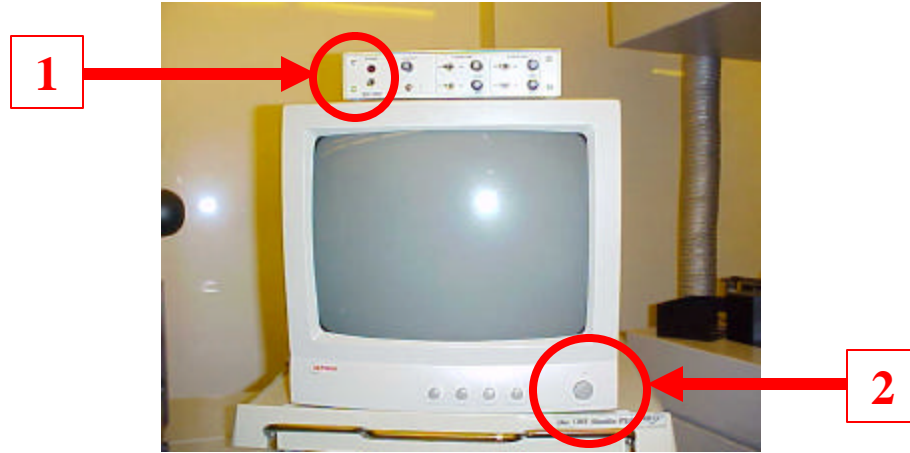
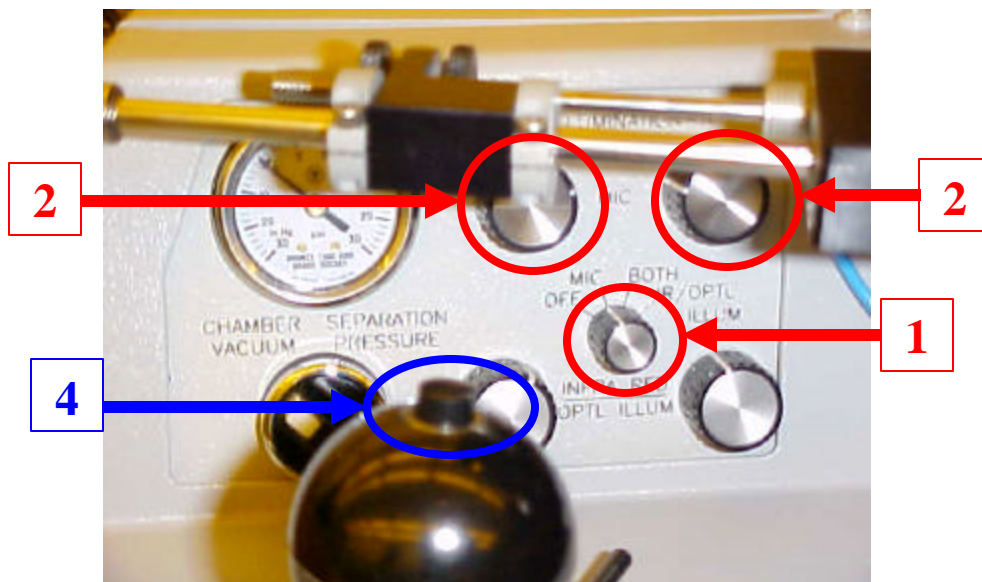
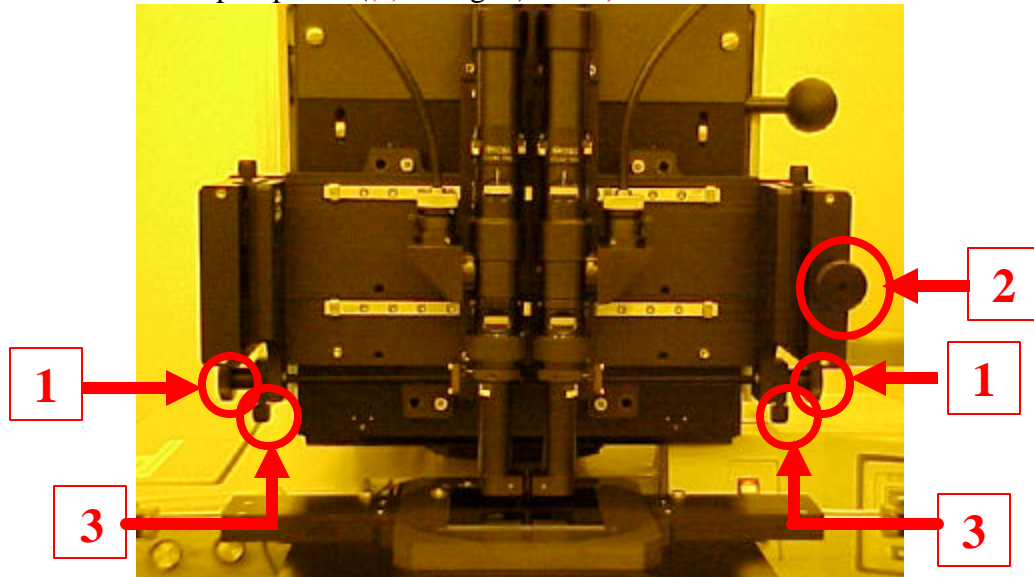
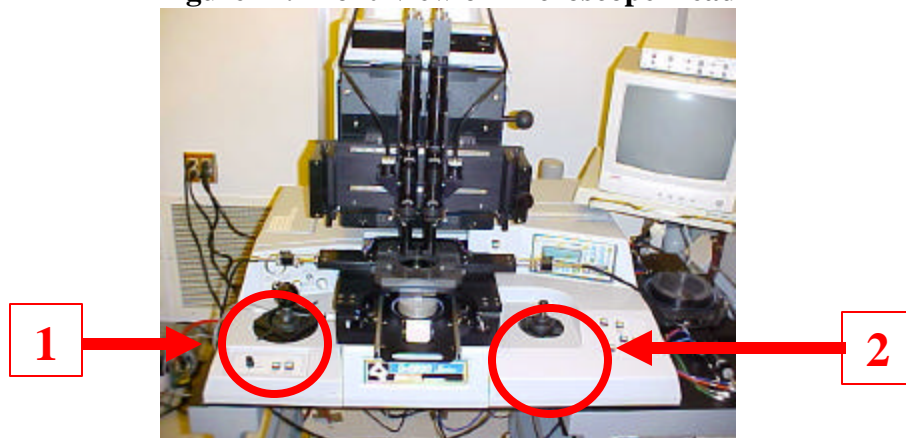

Figure 20. MV-200 & Monitor
Figure 21. Illuminator Adjustment
Figure 22. Front-view of Microscope Head
Figure 23. Joysticks
15. **If you don't need alignment (i.e., single layer exposure), you can skip steps 15-18. Go To the Step 19.** Turn the MV-200 power on ((1) in Fig. 20). Turn the monitor power on ((2) in Fig. 20). Turn the knob from "OFF" to "MIC (microscope)" ((1) in Fig. 21). Now, microscope light is illuminated and you can see the image of the mask and the wafer through the monitor. Adjust microscope illumination intensity ((2) in Fig. 21) as necessary. Move the microscope objective in x (each objective moves independently, (1) in Fig. 22) and y (both objectives will be moved, (2) in Fig. 22) direction as necessary. If the knobs ((3) in Fig. 22) are tightened, loose them slightly and move the microscope objectives as necessary. Once the alignment is done, make sure the knobs are tightened. If they are not tightened, what you see through the monitor and what you will get at the wafer may be different.
16. Move the mask/wafer stage together as necessary with "Scan Stage Joystick" ((1) in Fig. 23). **{CAUTION: YOU HAVE TO PRESS BUTTON ((4) in Fig. 21) ON TOP OF THE SCAN STAGE JOYSTICK WHEN YOU MOVE THE JOYSTICK. IF YOU DON'T PRESS THE BUTTON AND FORCE TO MOVE THE JOYSTICK, IT WILL BREAK.}**
18. Move the wafer chuck with “Align Stage Joy Stick” ((2) in Fig. 23) to align features on your mask and on the wafer. While you press “Coarse Align” button ((2) in Fig. 19) and move the “Align Stage Joystick”, it will give you a coarse alignment. While you don’t press the “Coarse Align” button and move the “Align Stage Joy Stick”, it will give you a fine alignment. Again, do not force the joystick over the range. NOW YOUR SAMPLE AND THE MASK IS ALIGNED. AND YOU ARE READY FOR THE “EXPOSURE STEP”.
20. **If you don’t need alignment (i.e., single layer exposure), you can skip step 20. Go To the Step 21.** If you used microscope for alignment, turn the knob from “MIC” to “OFF” ((1) in Fig. 21) to turn off the microscope illumination. Turn MV-200 ((1) in Fig. 20) and monitor off ((2) in Fig. 20).